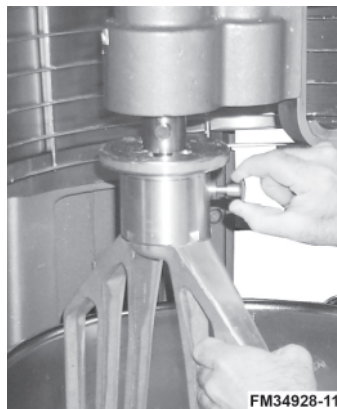

Fig. 7
3. Hold the agitator and pull the plunger of the agitator out (Fig. 7). Slide agitator down off the agitator shaft.